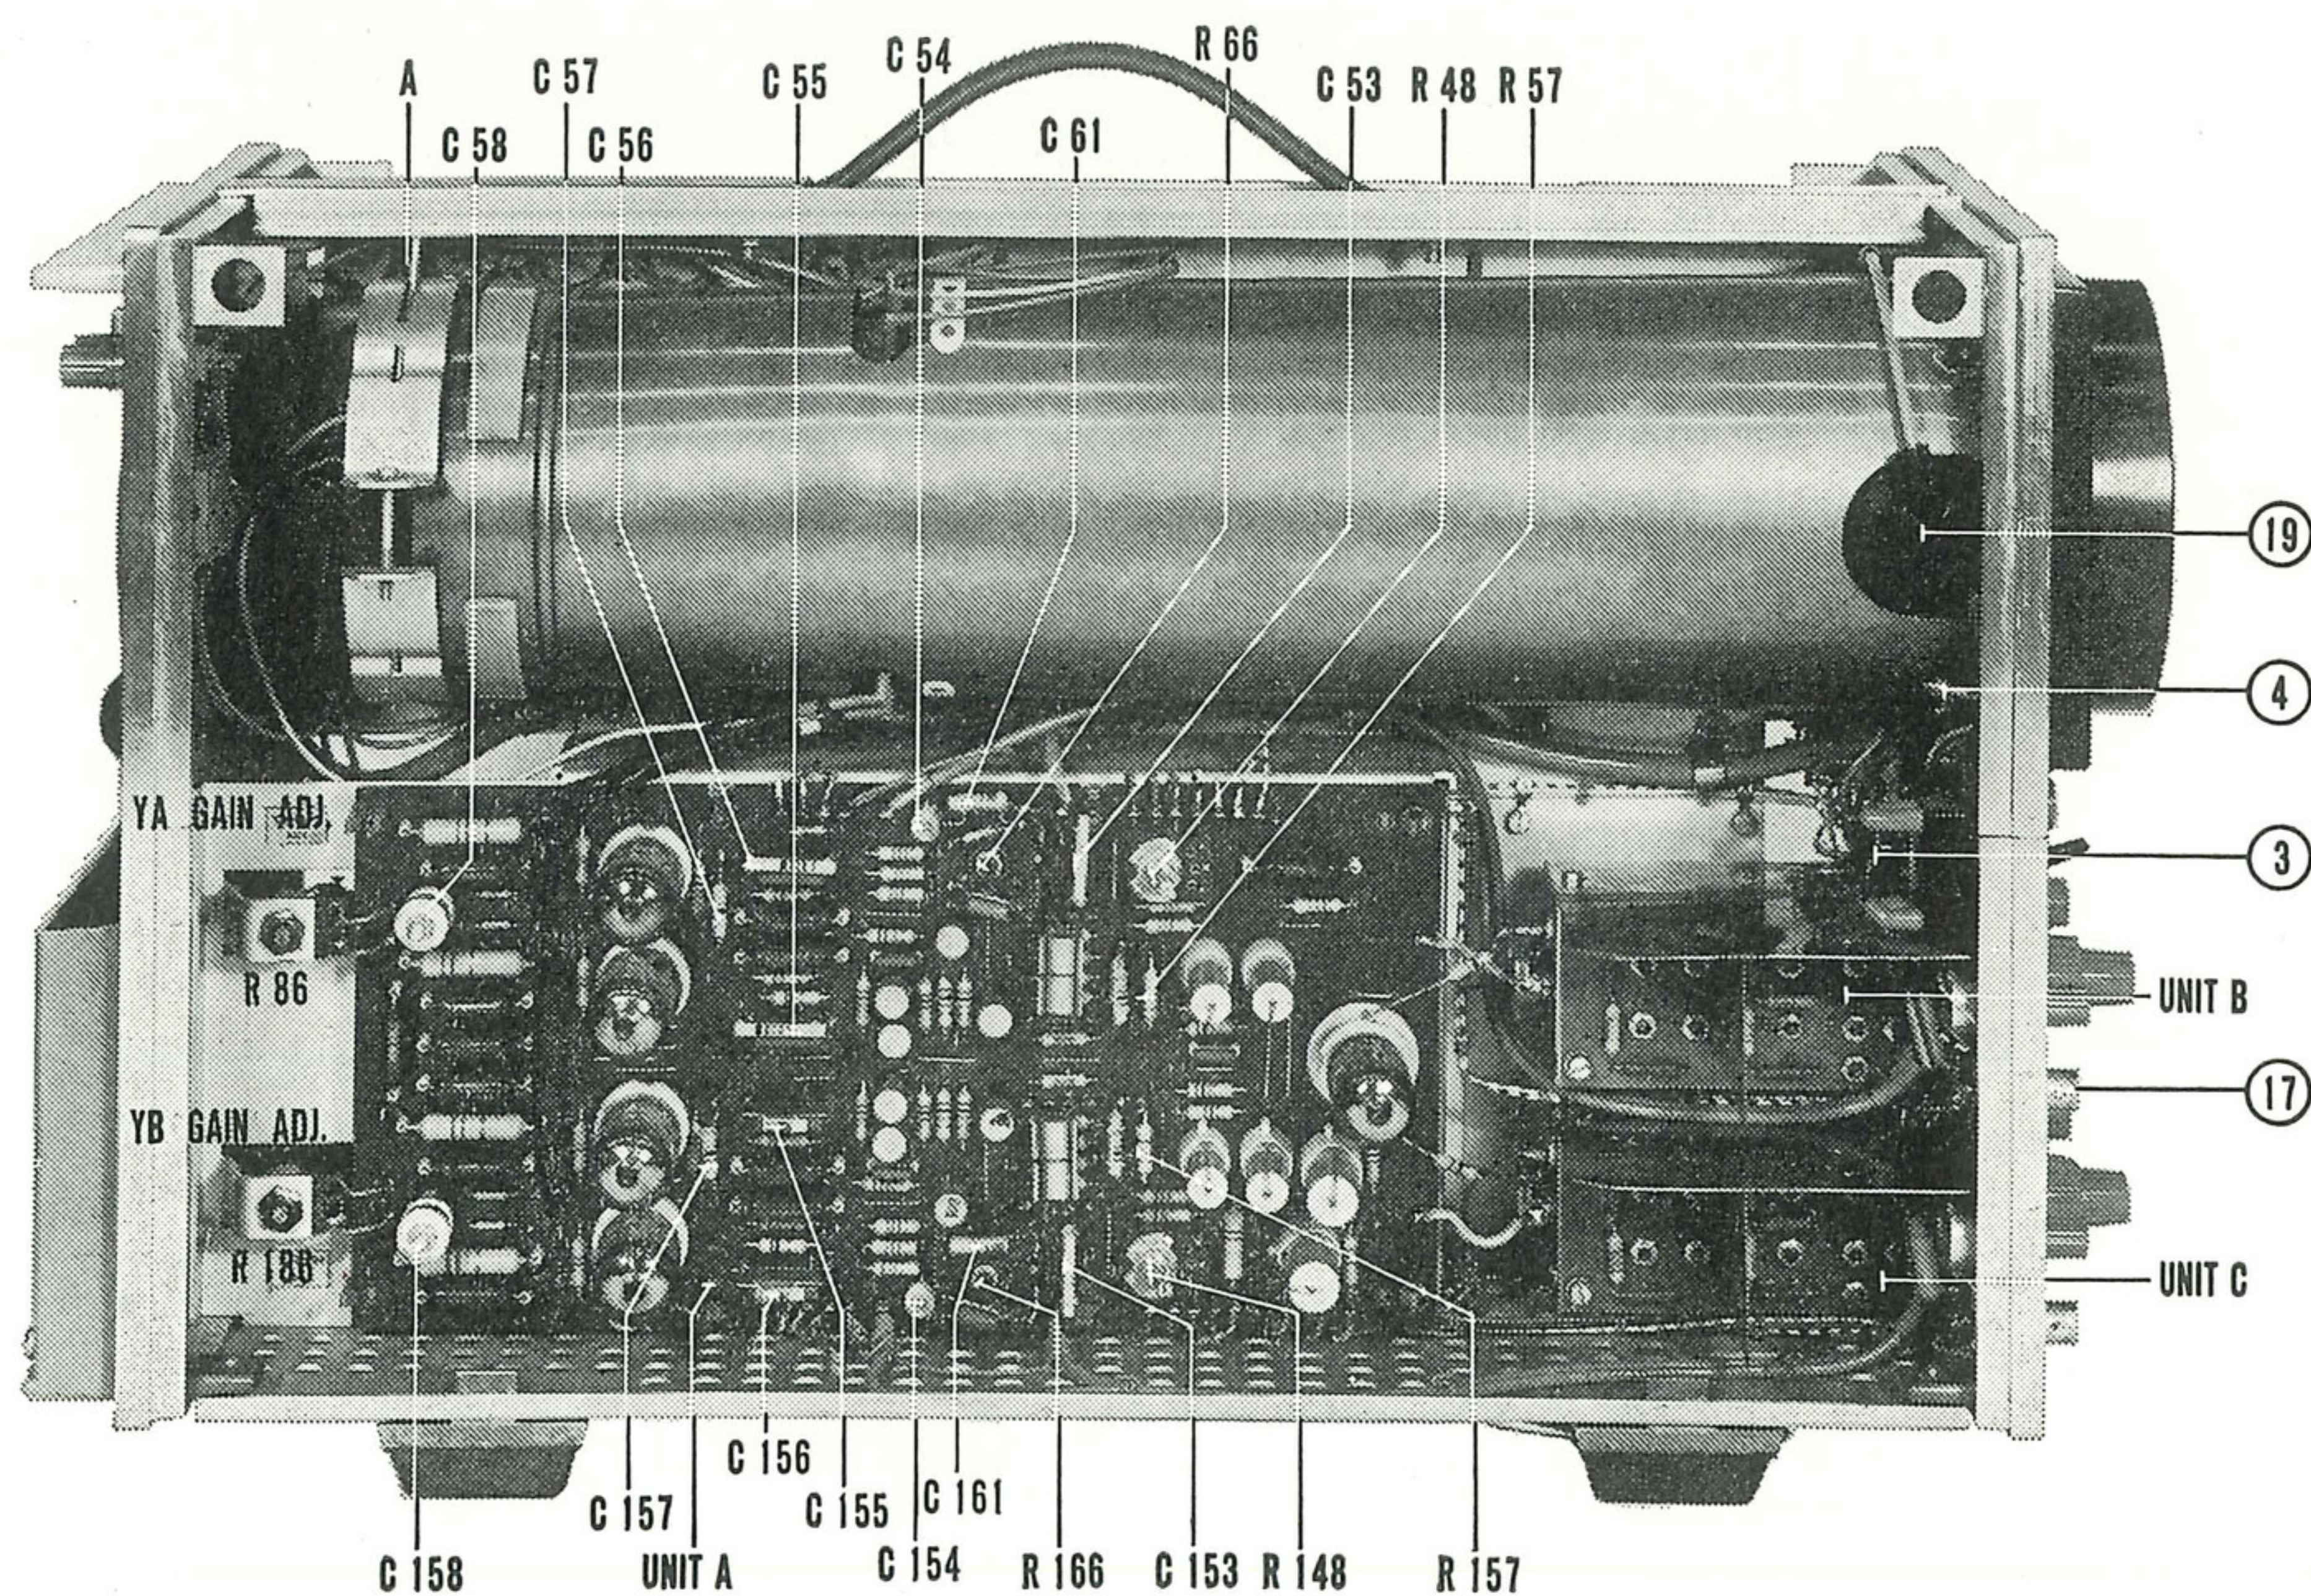

Fig. 12. Side view (left)
5. When a new tube has been fitted, make sure that the time-base line runs horizontally. If not, adjust with lever "A" (Fig. 12).